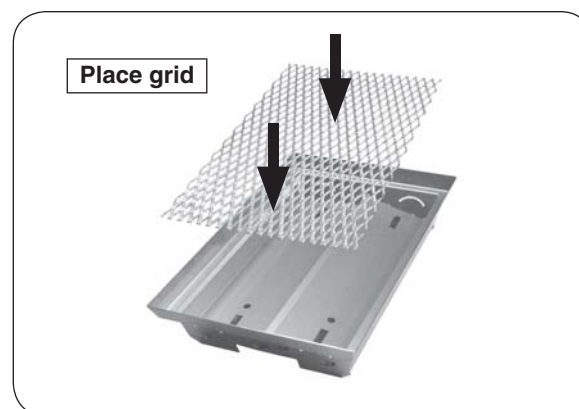

Fig. 31-2 Place grid inside basket
1. Place grid inside the basket frame (see Fig. 31-2).